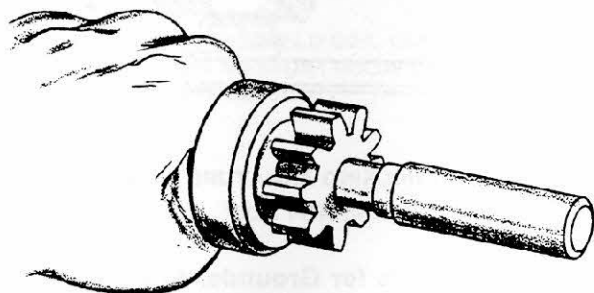

FIGURE 32. TOOL FOR DRIVING PINION STOPPER
5. **Solenoid Starter Only:** Remove the ring after driving the pinion stopper toward the pinion gear, using a cylindrical tool (Figure 32). Remove the overrunning clutch and the pinion stopper at the same time.